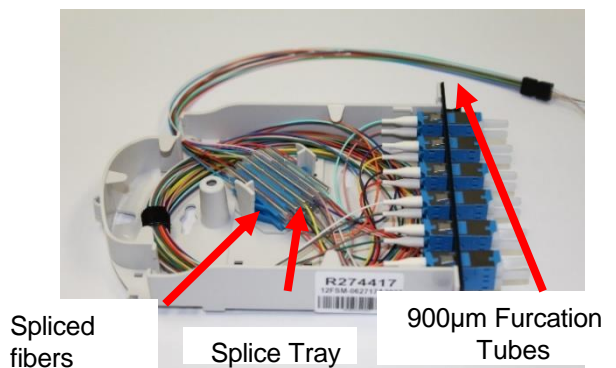

Figure 11
7.1 An example of the first fox cassette is shown in **Figure 11**. Remember each cassette installation will remain the same process wise. Start by stripping 3 feet of your fiber bundle and identify each individual fiber.